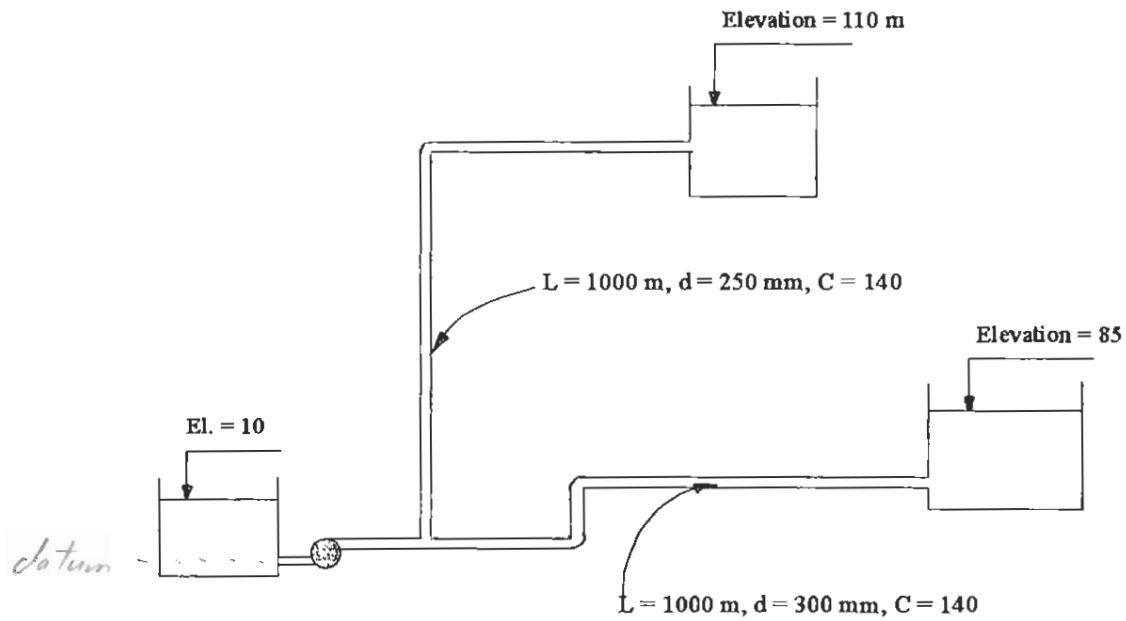

Fig. 1 Problem 1
- a) Calculate the system head curve for the pumping system shown in Fig. 1. Neglect minor losses.